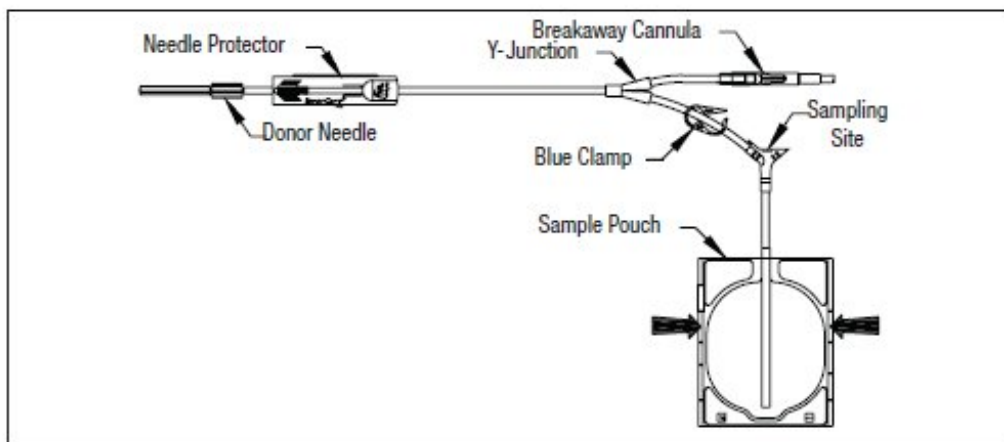

Figure 1
- **Do not use the product if the breakaway cannula is broken and/or anticoagulant is present in the sample pouch or in the tubing from the breakaway cannula to the sample pouch and donor needle (see Figure 1). Note that condensation in the empty tubing of the BLOOD-PACK unit is expected as a result of the sterilization process.**
- **If less blood sample volume is required, the flow to the sample pouch may be stopped prior to completely filling the pouch. For example, in order to target a fill volume of approximately 40 mL, fill to the level indicated by the arrows in Figure 1. Ensure the pouch is hanging vertically.**